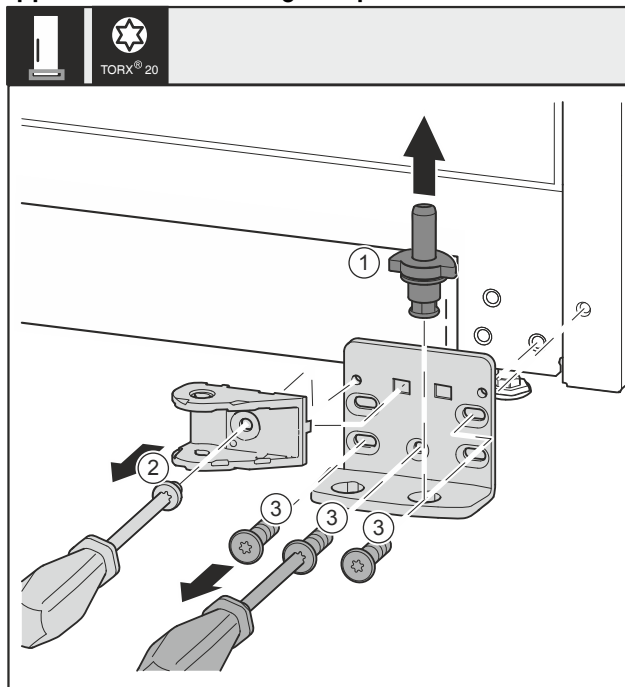

Fig. 27
- ▶ Completely pull out the bearing pin Fig. 27 (1) upward.
- ▶ Use a screwdriver to unscrew the screw Fig. 27 (2) and remove the closing damper connection.
- ▶ Use a screwdriver to unscrew the screws Fig. 27 (3) and remove the swap bearing block.